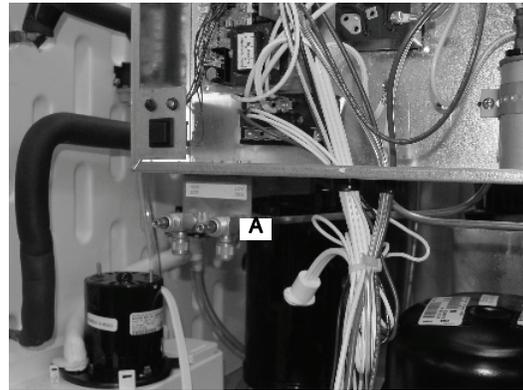

Figure 16.
13. Remove the 2 screws connecting the service valve bracket (A) to the control box (FIGURE 16).